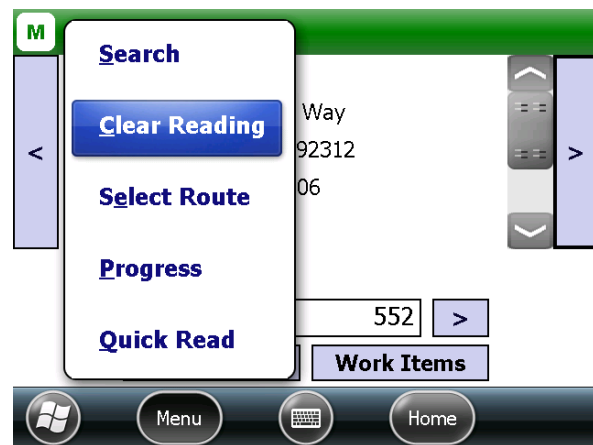

Figure 19: Clear Reading
4. To clear and re-enter a reading, tap **Menu** > **Clear Reading** (Figure 19).